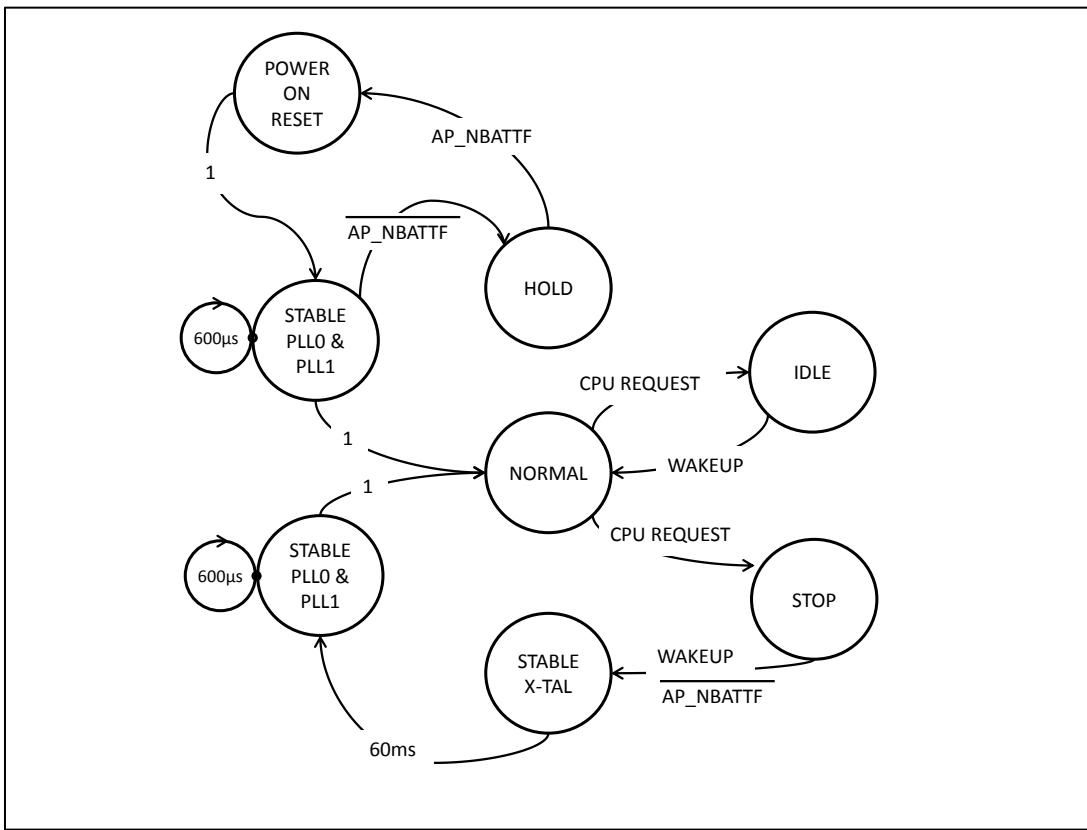

Figure 6. ARTIK 710 Module Power Management State Diagram
*Figure 6* shows the Power Management state diagram. In this diagram the entry and WAKEUP conditions for each power down mode are given.